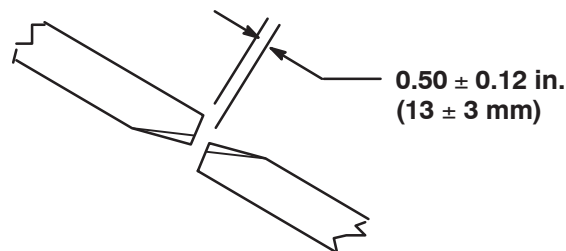

Figure 20
To ensure proper operation of the cutting unit, there must be 0.50 ± 0.12 in. (13 ± 3 mm) clearance between the tips of the wing and center cutting unit blades (Fig. 20).
2. Rotate a center and adjoining wing blade so there blade tips are aligned. Measure distance between blade tips, distance should be approximately 0.50 ± 0.12 in. (13 ± 3 mm) (Fig. 20).